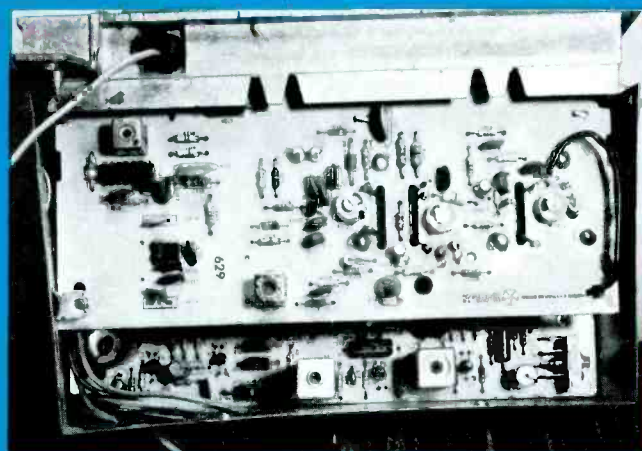

Figure 4 Some auto radios are difficult to test or work on because the FM section is mounted over the other board, as shown here in a Clarion model PE-676A.
**Figure 4** The specific amount of ac-bias current determines: 1) the percentage of distortion, 2) the high-frequency response during playback and 3) the volume remaining on the tape following playback. Usually, a compromise is necessary since the optimum for each attribute is obtained at a different bias amplitude. Also, distortion in the ac-bias signal increases the noise level during playback. Bias sinewaves of low distortion are shown by the top trace, while the bottom trace reveals some distortion of the bias current.
Servicing FM problems often requires a longer time than for AM problems. For one reason, the FM section might be located inconveniently on top of the AM and audio sections (Figure 4).